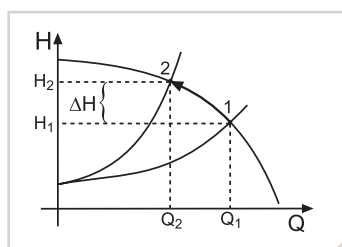

Fig. 7.3.2f Throttling discharge line
Throttling the discharge line will increase the resistance in the process plant, which will increase the head and reduce the capacity. The connection between capacity (Q) and head (H) when throttling is shown in fig. 7.3.2f.